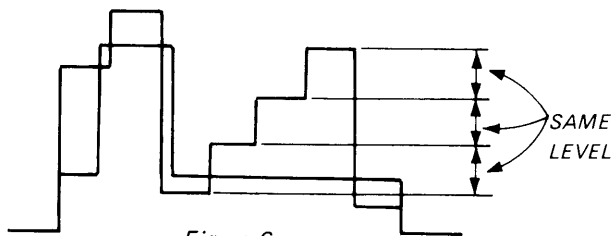

Figure 6
9. Adjust RV105 (APC-1 3.58 MHz) to get color sync. And adjust B.OUT. (Figure 6)